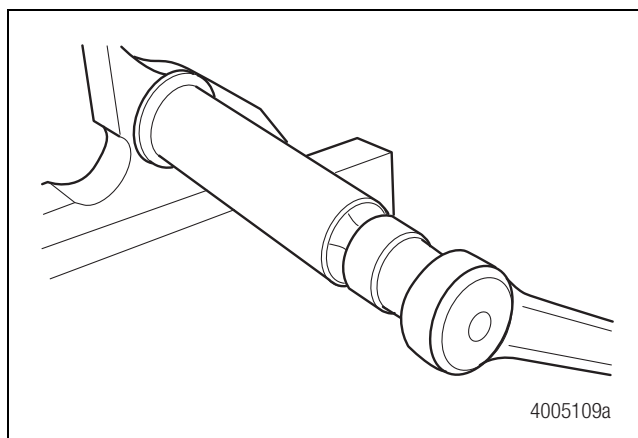

Figure 5.46
1. Before you remove the slide pins, note the locations of the long and short slide pins. Remove the slide pin bolts retaining the slide pins to the carrier. Figure 5.46. If necessary, carefully release the slide pins from their location on the carrier using a rubber or soft metal hammer.